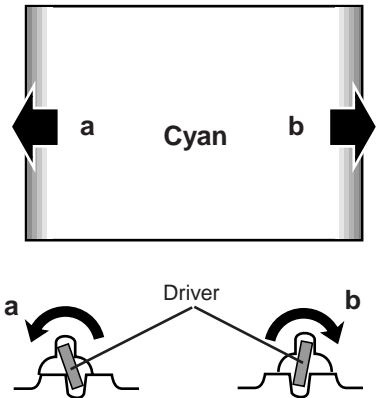

Fig.10-1
- 1) If the un-uniform color appears on the left or right of the screen as shown in **Fig.10-1**, loosen 2 screws "B" with the hex driver (**Fig.9**) and adjust a slot "A" to make color uniformity in cyan by using a slot screwdriver.